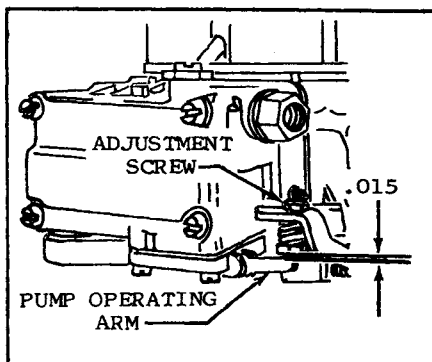
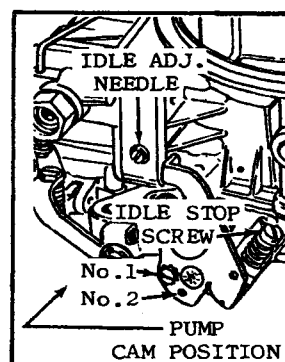

FIG. 2
FIG. 4
2. **Pump Adjustment.** (A) WITH PUMP CAM (SEE FIG. 4) IN NO. 1 POSITION (62-64 RAMBLER AND WILLYS NO. 2 POSITION) (B) (SEE FIG. 2). THROTTLE HELD IN WIDE OPEN POSITION AND THE PUMP OPERATING ARM HELD IN A FULLY COMPRESSED POSITION, CHECK THE CLEARANCE BETWEEN THE ADJUSTING NUT AND THE PUMP OPERATING ARM. THE CLEARANCE SHOULD BE .015. TO ADJUST, TURN SCREW.
5. **Slow Idle Adjustment:** ENGINE AT OPERATING TEMP., AND CHOKE WIDE OPEN, ADJUST IDLE MIXTURE NEEDLES (15) TO A SMOOTH IDLE. ADJUST IDLE STOP SCREW TO 500-550 R.P.M. (SEE FIG. 4).